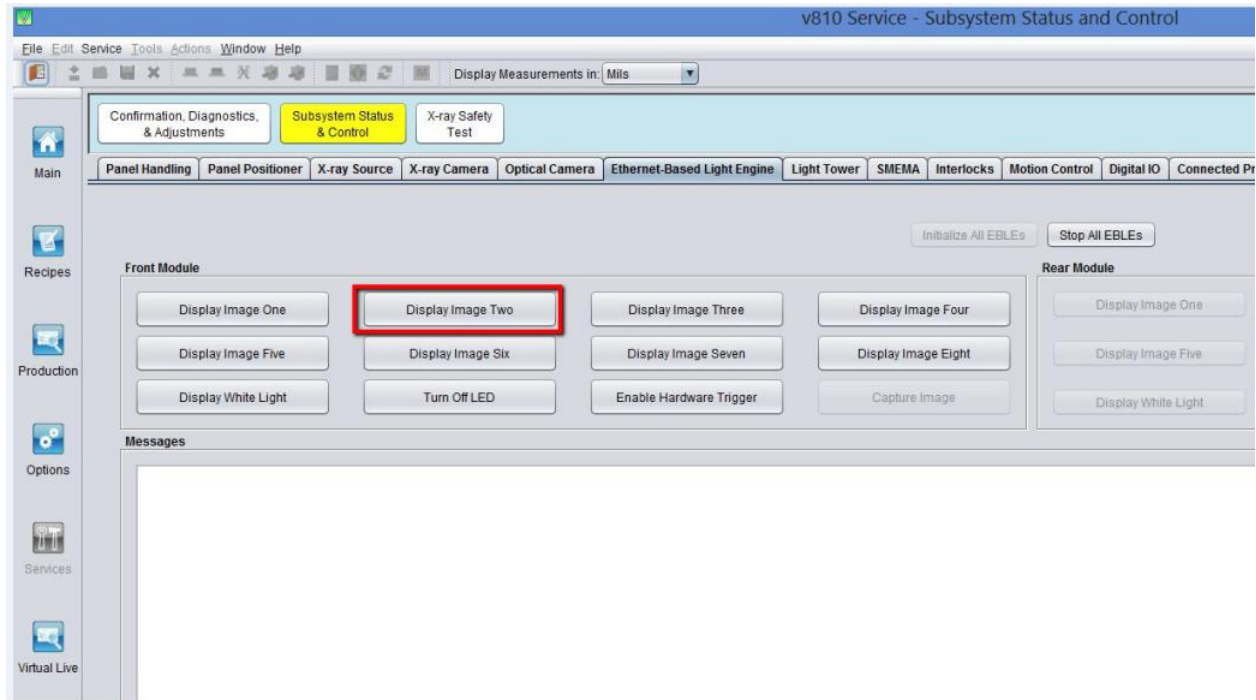

Figure 45 EBLE GUI
44. Next, Go to EBLE tab at V810 Software and Select “Display Image Two” as below Figure 45.